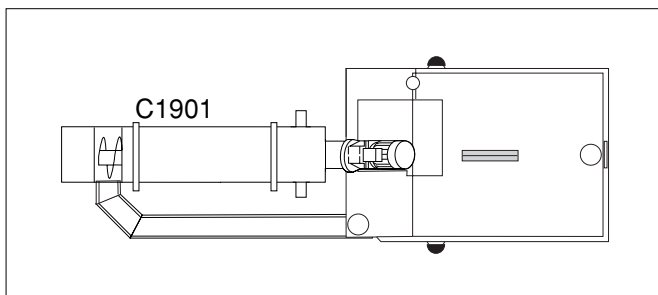

fig.10.1 Position washer/conveyor screw and trough in relation to the inspection/peeling table
- mind during the set-up of the inspection/peeling table the setting conditions of the other components of the gizzard processing installation. See figure 10.1.